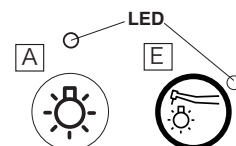

Fig.3-6 Light Pack Switch
④ The Light Pack Switch (Optional)(Fig.3-6) A E